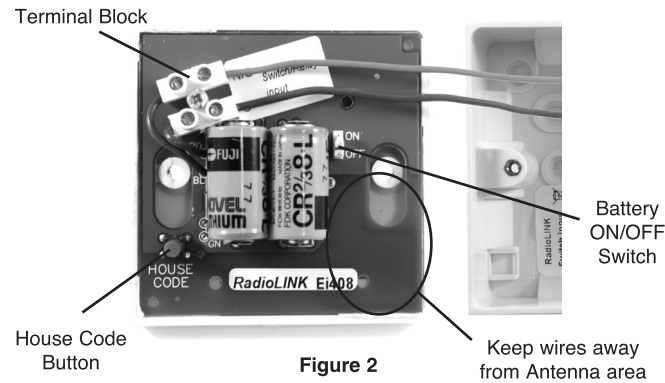

Figure 2
3. Switch on the built-in battery by sliding the yellow battery switch to the "on" position (see Figure 2).
4. Press and hold the House Code button (shown in Figure 2) until the red light on the front plate of the Ei408 illuminates solidly. As soon as the light illuminates, release the House Code button. The red light should start to flash slowly (this indicates that the Ei408 is sending out its own unique House Code signal).
If your Ei408 fails to work after you have read this leaflet, contact Customer Assistance at the nearest address given at the end of this leaflet. If it needs to be returned for repair or replacement put it in a padded box with the battery disconnected. Slide switch to “off” position (see Figure 2). Send it to “Customer Assistance and Information” at the nearest address given on the Ei408 or in this leaflet. State the nature of the fault, where the unit was purchased and the date of purchase.